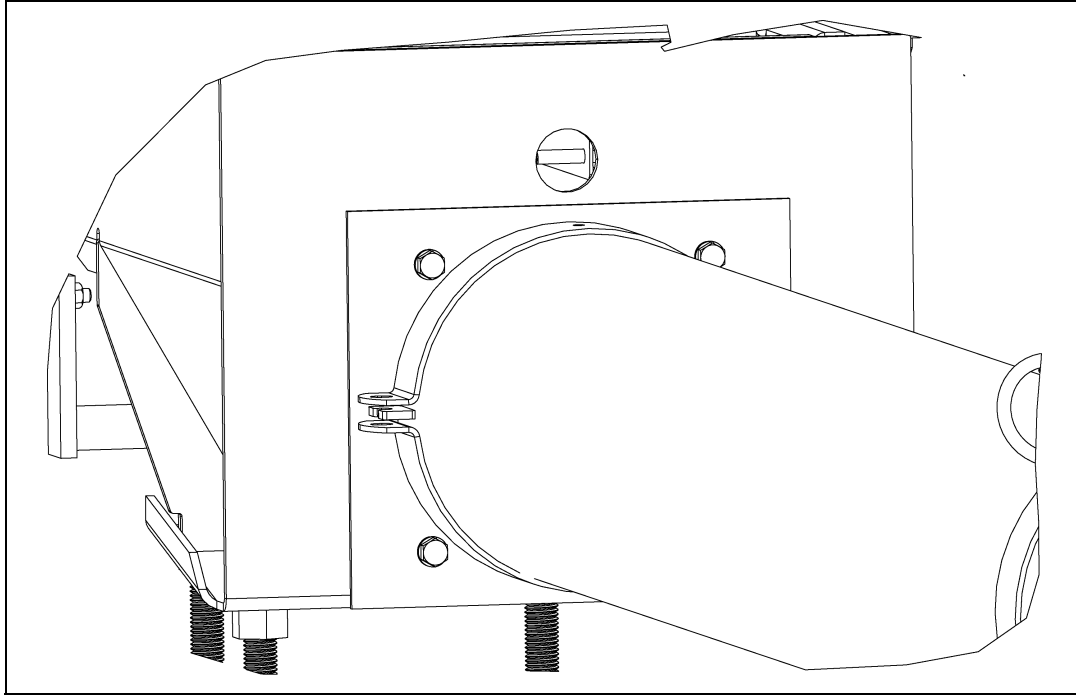
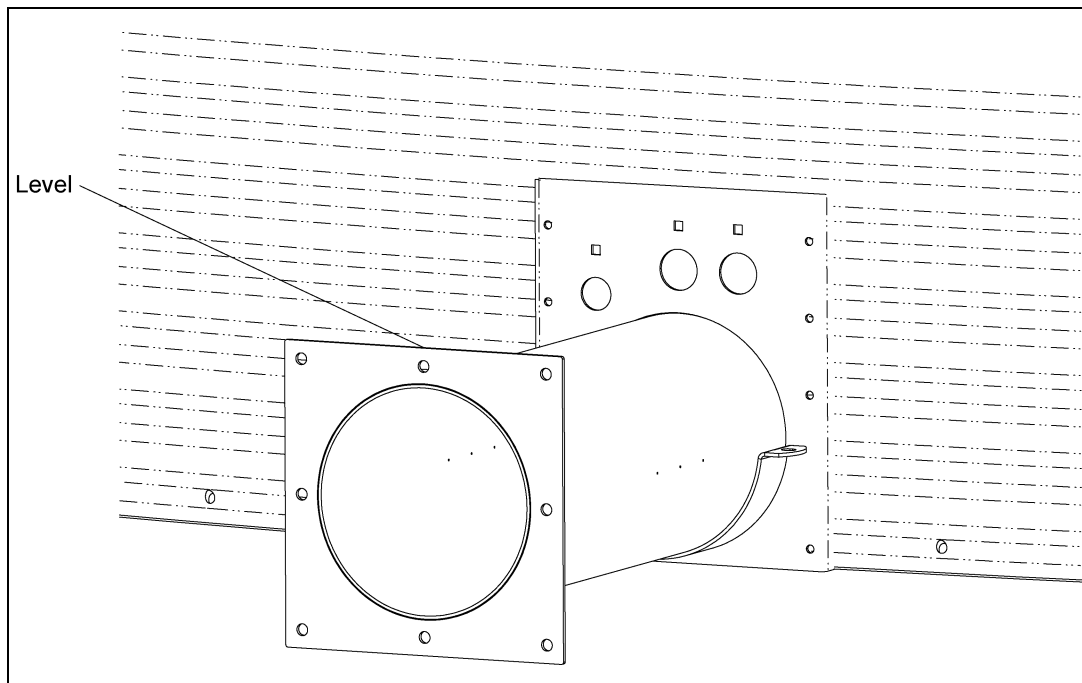

Figure 5J
Figure 5K
11. Connect the discharge auger tube to the Grain Flow sump. Be sure that the locator tabs welded on the auger tube are in position between the clamp bands. At this time, check the square flange welded onto the opposite end of the auger tube making sure it is level. Finish by tightening the two (2) $\frac{3}{8}$ " x $1\frac{1}{4}$ " bolts and nuts holding the two (2) clamps together. The square flange on the auger tube must be level to ensure the power unit or vertical augers, if utilized, will be level and plumb. (See Figure 5J and Figure 5K.)